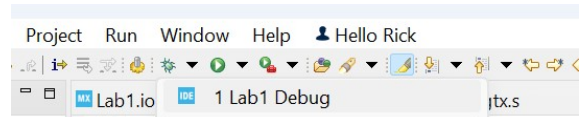

Figure 4: Start Debug
4. To run the program, click the green bug in the center of the task bar, shown in figure 4.
9. To run the program, click the green bug in the center of the task bar, shown in figure 4.